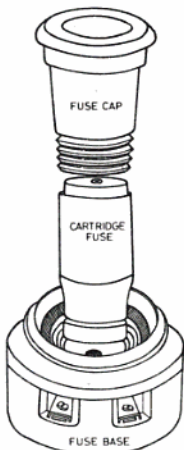

Fig. 5.23 (b) D-type cartridge fuse
- (ii) link-type cartridge fuse. Fig. 5.23